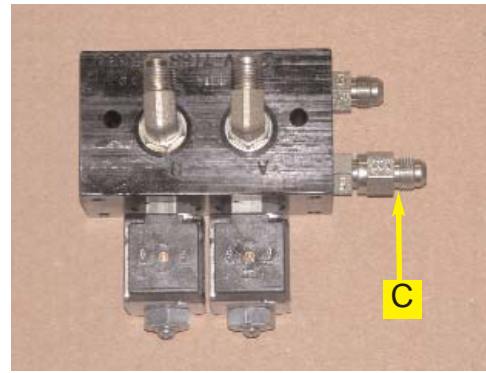

Figure 2. Installed orifice fitting (C).
- a. Install the orifice fitting (C) onto the P port fitting of the automated steering block. (Figure 2.)
- c. Connect the valve control cable (A), supplied, to the valve coils on the automated steering valve and route it securely into the tractor cab.